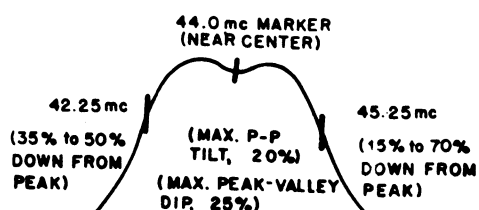

FIG. 2
6. Adjust T-3 top and bottom simultaneously for over-coupled response as shown in Fig. 2. (Use core positions nearest outside ends of coil.) With input signal maintained to produce 2 volts P-P output during final adjustment, bandwidth markers should fall between the tolerances indicated.